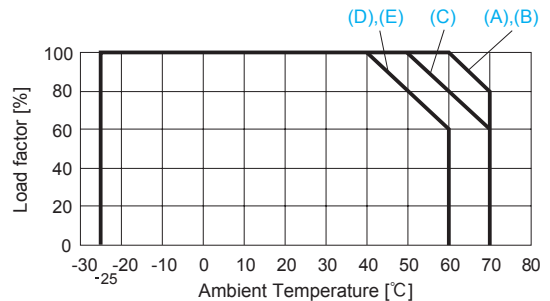

Fig.4.5 Derating curve depend on ambient temperature
- ※ In KRE-40A, if you use the AWG12 wire, please use at 10deg lower than the derating curve shown on Fig.4.5, since the heat generation of the wire increases.